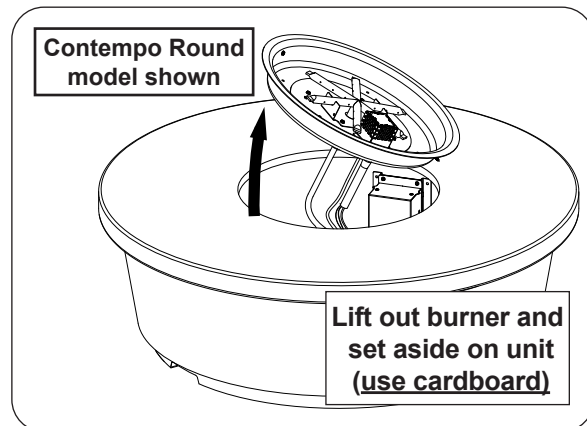

Fig. 55-1 Gain access to interior (if needed)
1. The burner will need to be partially removed. Prior to removal, rest cardboard over the surface of the table top (to prevent damage to the finish when the burner is set aside on the unit). Remove all media. Use a $5/16$ " nut driver to partially unfasten the 2-4 screws found on the burner assembly. Then carefully lift out the burner and set it off to the side. See Fig 55-1.